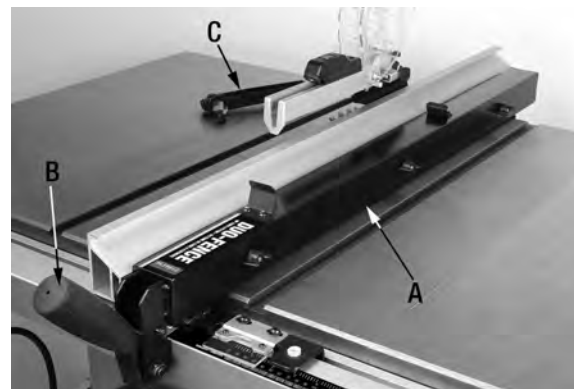

FIGURE 25
- 1) Position the rip fence (A) Fig.25 onto the table, placing the front end into the front rail slot. Raise the blade guard components, remove anti-kickback fingers assembly (C) and slide the rip fence completely up against the blade as shown. Do not lock rip fence by lowering front handle (B), the rail must be able to move.